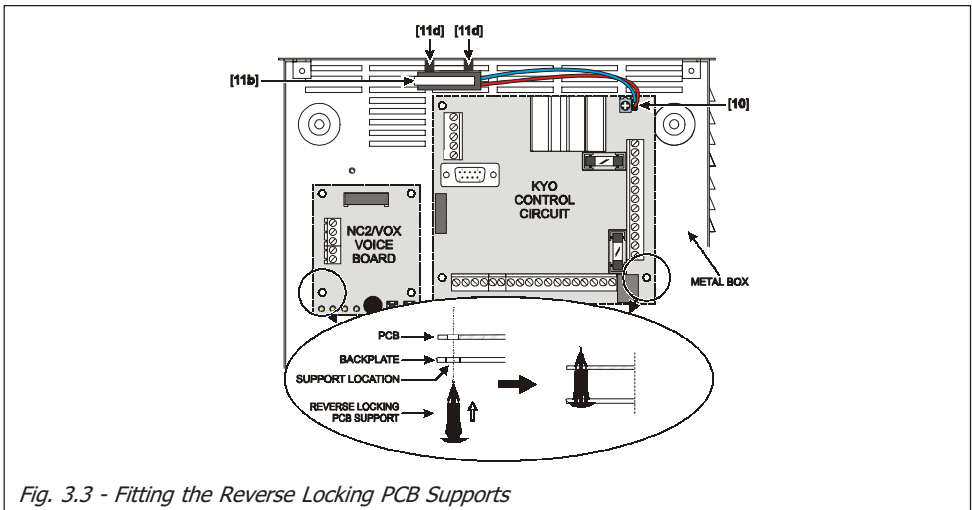

Fig. 3.3 - Fitting the Reverse Locking PCB Supports
1. Insert the 4 reverse locking PCB supports [**3a**] into their locations on the backplate, then attach the PCB. If you are installing an NC2/VOX Voice Board, insert the supports (LEDs to the bottom), then attach the NC2/VOX Voice board (see Fig. 3.3).
5. If you are fitting a Tamper microswitch [**11b**], insert the two spacers [**11d**] then, using the two hexagonal nuts (M3), secure it to its location (see Fig. 3.3). Connect the wire to the connector [**10**].
2. Insert the 4 reverse locking PCB supports [**3a**] into their locations on the backplate, then attach the PCB (see Fig. 3.3). If you are installing an NC2/VOX Voice Board, insert the supports [**3a**], then attach the NC2/VOX Voice board (LEDs to the left).
6. If you are fitting a Tamper microswitch [**11b**], insert the two spacers [**11d**] then, using the two hexagonal nuts (M3), secure it to its location (see Fig. 3.3). Connect the wire to the connector [**10**].